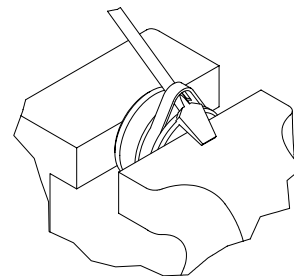

Figure 6-6, Piston Seal
8. Carefully pry up on the piston seals using a blunt tip screw driver being careful not to scratch the seal grooves. Cut the seals to remove from the piston. (Figure 6-6)